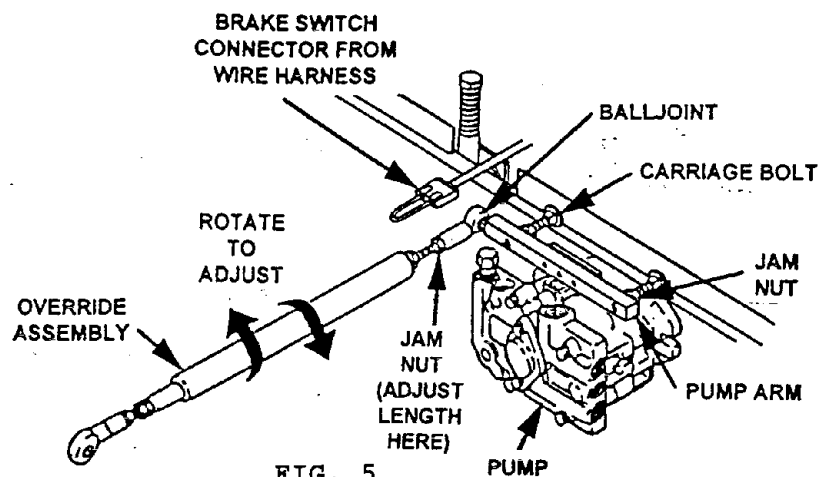

FIG. 5
- e) Loosen locknut from the two ball joints which connect the override assemblies to the pump control arms. Loosen the four lock nuts securing the 1/4 x 1 carriage bolts to pump control arms and screw the carriage bolts in several turns (See Figure 5).